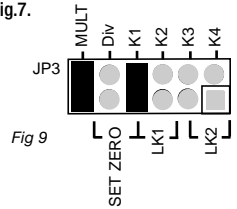

Fig 9
- Move one jumper to **MULT** and the other jumper to the **K1** position See Fig.9